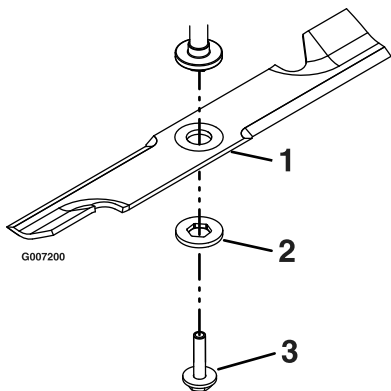

Figure 40
2. With the wrench still on the blade bolt, hold the blade spindle stationary and using a rag or thickly padded glove, try to rotate the blade. If the blade rotates relative to the spindle guard without further tightening the blade bolt, the spring disc washer has been flattened or damaged and the bolt and washer assembly must be replaced (Figure 40). Refer to the Removing the Blades and Installing the Blades section.
Hold the blade end using a rag or thickly-padded glove (or place a wrench on the top sheave nut). Remove the blade bolt and washer assembly, washer, and blade from the spindle shaft (Figure 40).
1. Install the blade onto the spindle shaft (Figure 40).